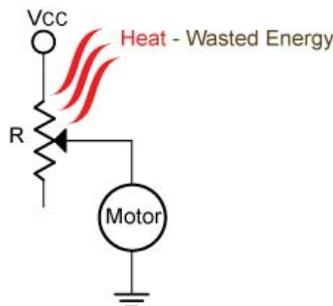

Figure 2: Motor Control Using a Rheostat
- One difficulty with this method is that the voltage drop across the resistor represents energy lost in the form of heat which is a waste of valuable energy from a battery source (Figure 2).